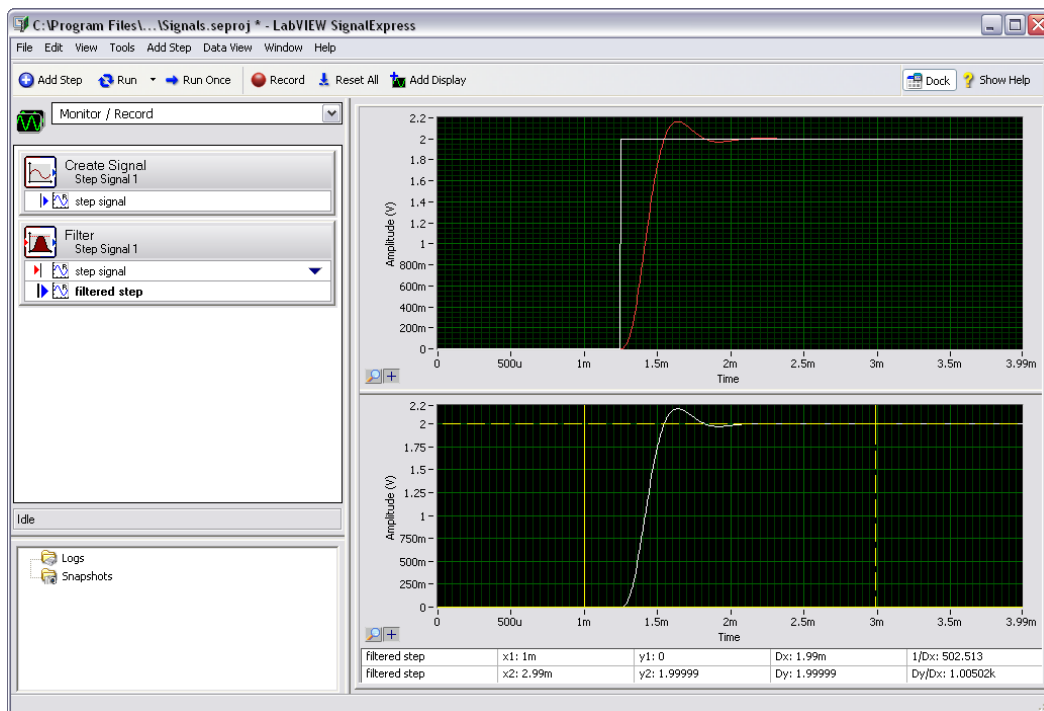

Figure 4-1. Signals.seproj
- Right-click the new graph and select **Visible Items»Cursors** from the shortcut menu to display two interactive cursors, as shown in Figure 4-1.